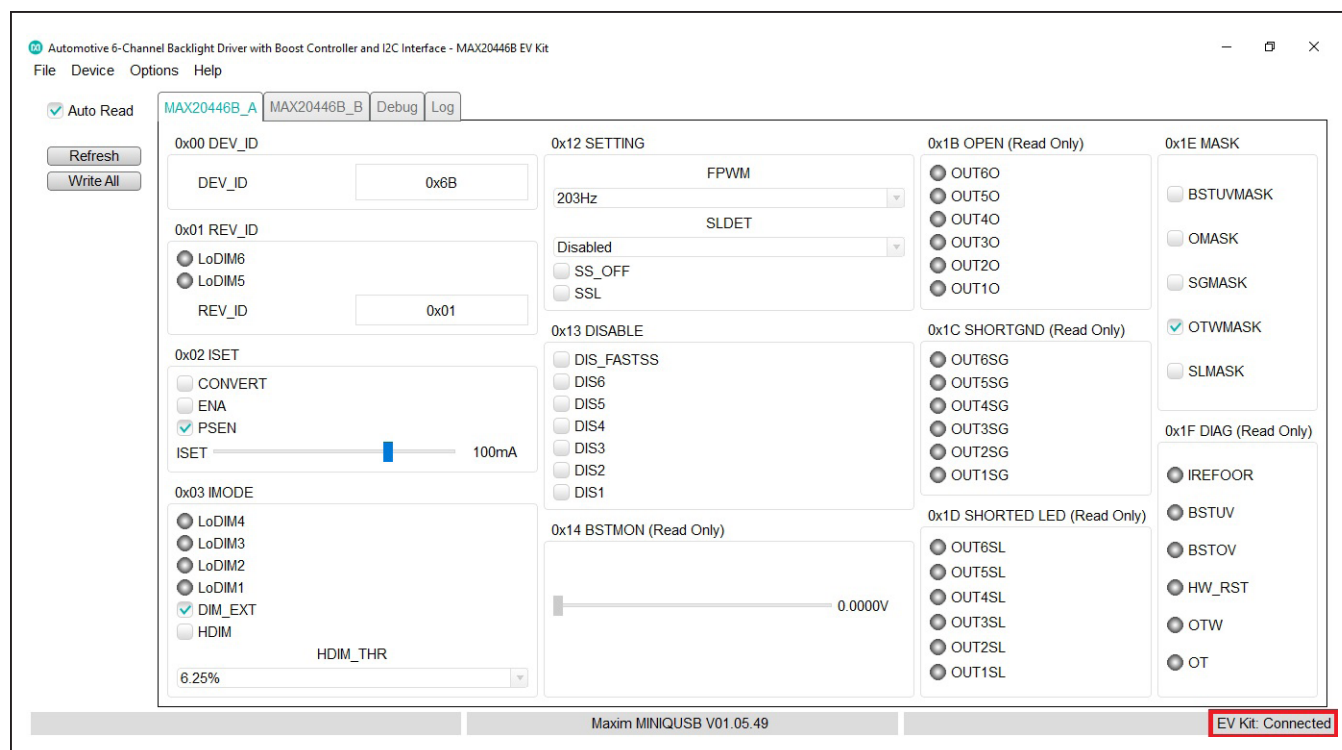

Figure 1. MAX20446B Evaluation Kit Software (GUI)
- 17) Verify that the status bar in the bottom-right corner of the GUI displays EV Kit: Connected, as shown in Figure 1.